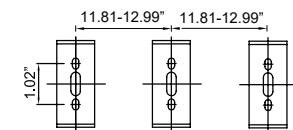

Figure 1
2. Use appropriate mounting hardware (not supplied) to secure the Mounting Brackets to mounting surface (2 for 2ft & 4ft and 3 for 8ft) based on the drill patterns. See Figure 1.